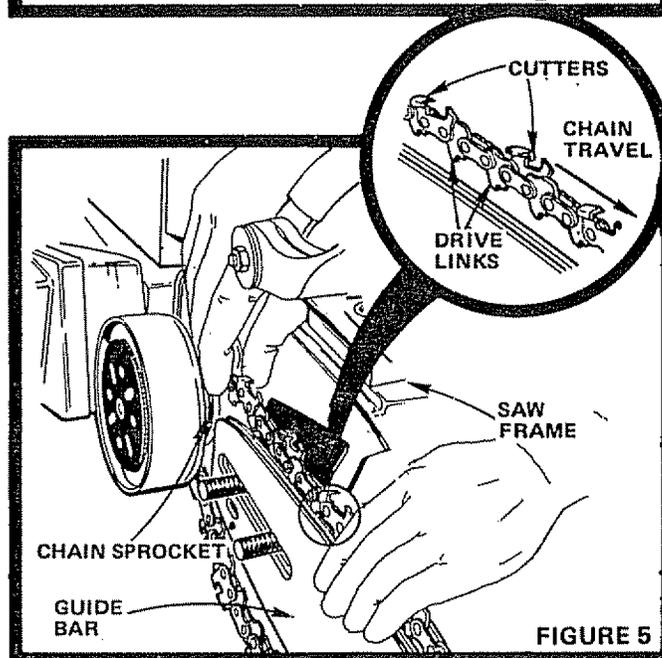

FIGURE 5
5. Hold Guide Bar slightly away from the Saw Frame. Push Bar as far TOWARD the Chain Sprocket as it will go. Place Chain Drive Links around Chain Sprocket and in Guide Bar groove (Fig. 5). SHARP EDGES OF CUTTERS MOVE AWAY FROM THE SAW FRAME ON TOP OF THE GUIDE BAR (FIG. 5 - INSET).